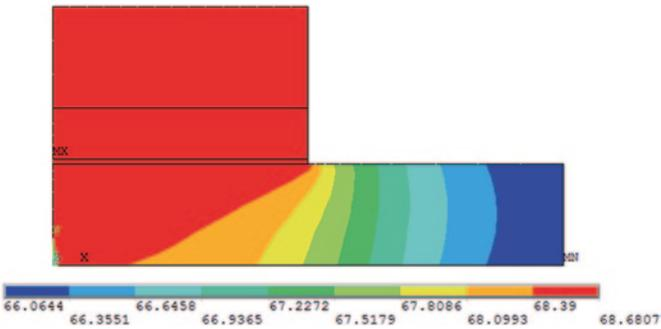

Fig. 9.52 Contour plot of temperature at substep 100 (time = 300 s)
- Repeat this *procedure* for substeps 50 and 100. Contour plot corresponding to substep 100 (time = 300 s) is shown in Fig. 9.52.